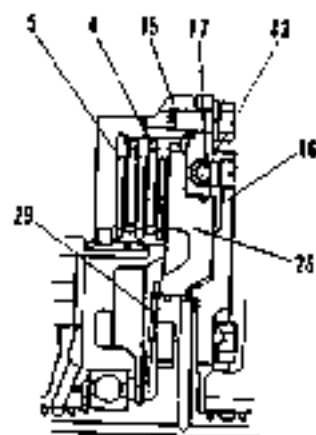

Fig 2-18 No. 5 clutch
The structure of No. 5 clutch is shown in Fig. 2-18. The oil at the back space of cylinder block(16) remains under centrifugal force due to the revolution even when the clutch is disengaged. The disc spring(29) cannot ensure quick disengagement between disc and plate. This will make the clutch in a state of semi-disengagement and lead to fault during next gearshift. Ball check valve(17) functions to avoid this kind of fault.